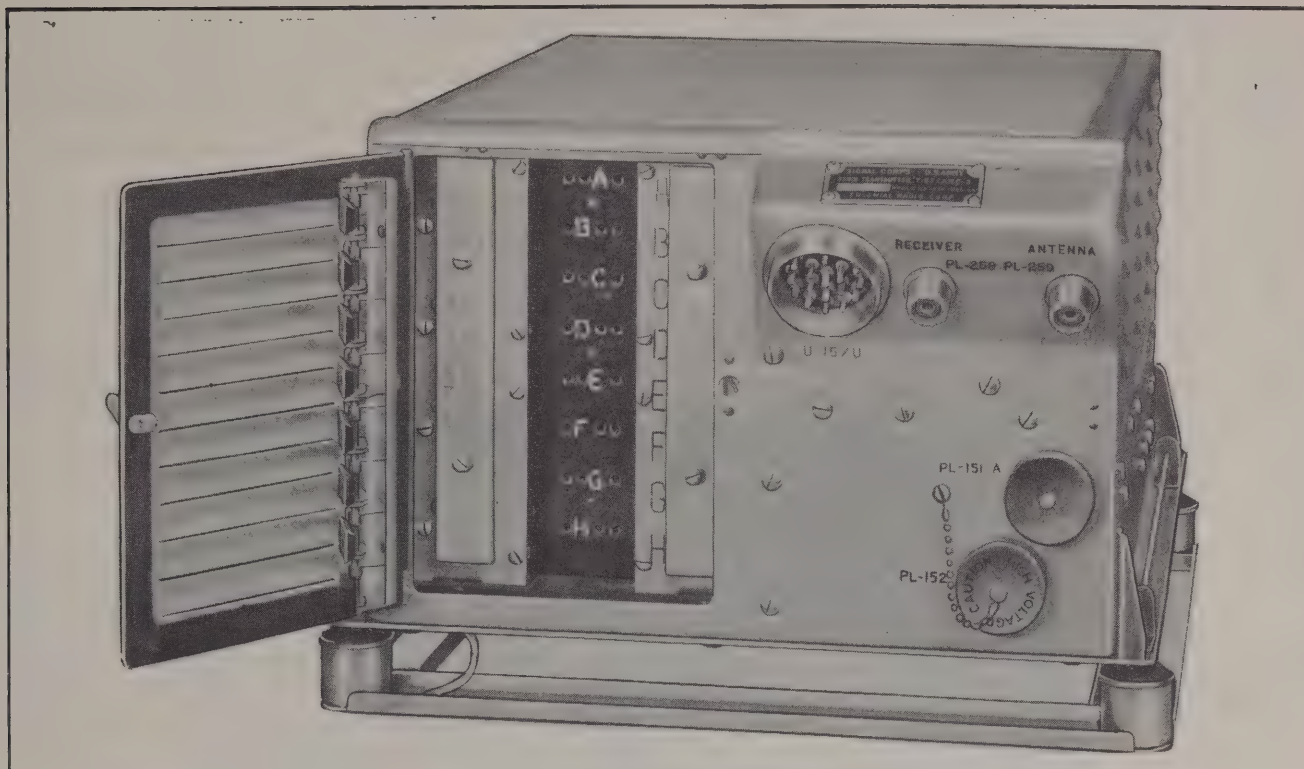

Figure 2-1. Radio Transmitter T-67/ARC-3 — With Crystal Compartment Door Open
(3) Insert one end of Cord CX-217/ARM-1 in the power junction box receptacle marked "PL-148A." Connect the *white* covered wire to the positive terminal of a 28-volt d-c supply. *The white-black tracer is the ground and must connect to the negative terminal* of the 28-volt d-c supply.
(4) Remove Test Unit TS-178/ARM-1. If the radio receiver is to be aligned, insert the test unit plug in the radio receiver receptacle marked "PL-152." This receptacle is located underneath the top cover of the radio receiver. If the radio transmitter is to be aligned, insert the test unit plug in the receptacle marked "PL-152" on the front panel of the radio transmitter. This receptacle is covered with a red bakelite cap. (See fig. 2-1.)